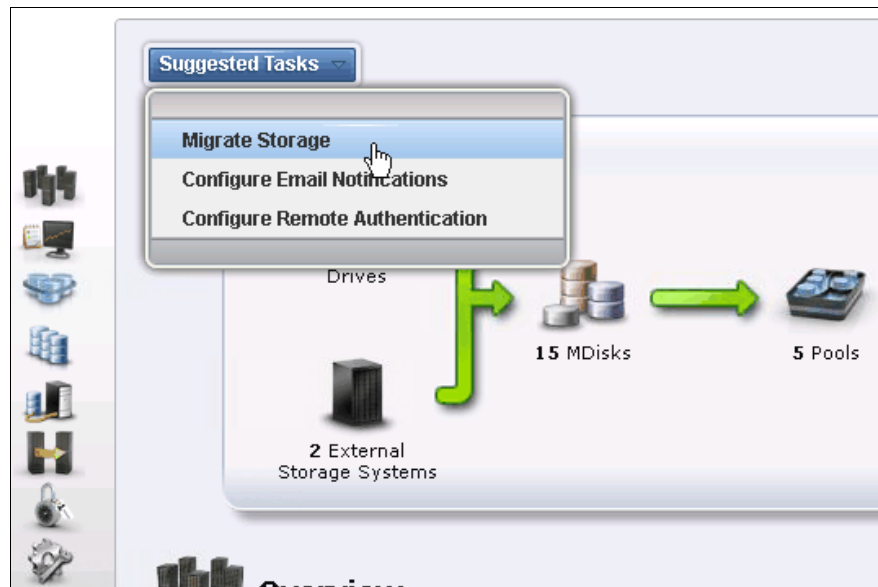

Figure 6-1 Getting Started window with Migrate Storage option displayed
- From the dynamic menu select **Home** → **Overview**, and then click **Migrate Storage** from the **Suggested Tasks** drop-down menu (Figure 6-1).